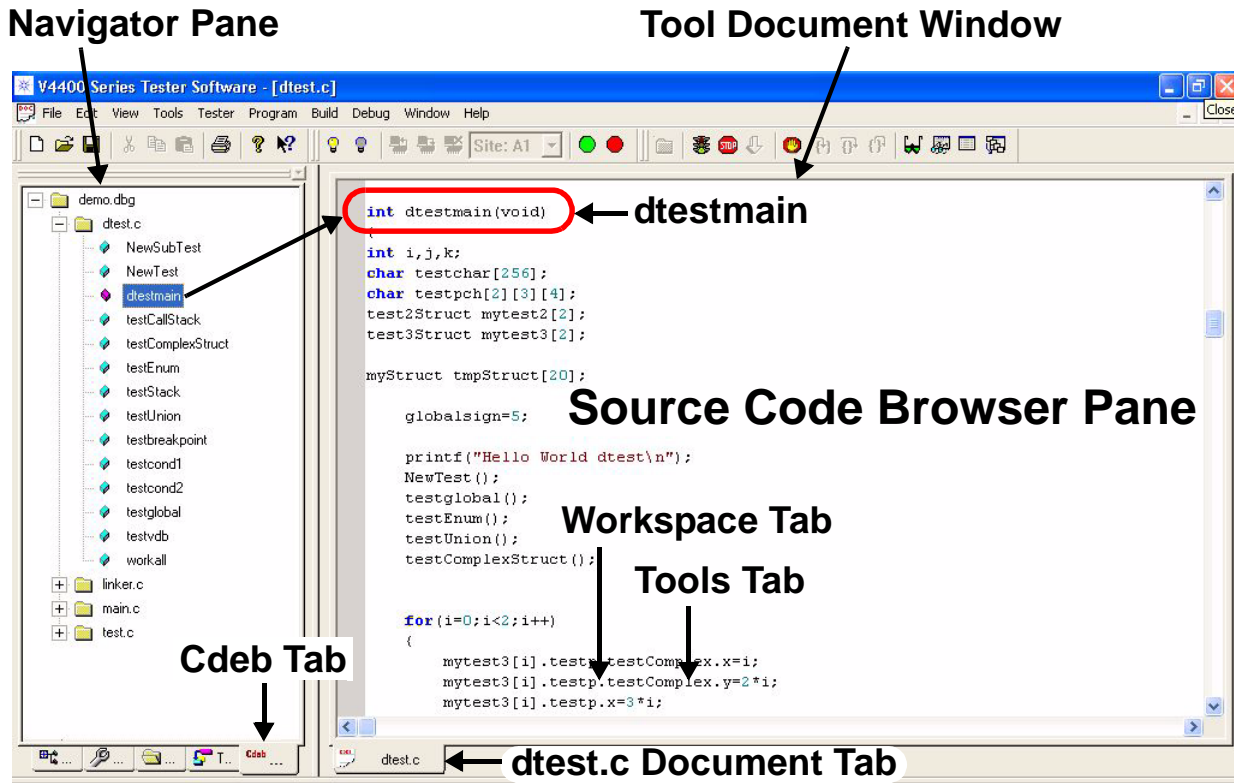

Figure 4-43. C Debugger Displaying dtest.c Document Window
- 7 In the C Debugger **Cdeb** tab, navigating to and double-clicking the `dtest.c > dtestmain` function displays it in the Source Code Browser Pane. Selecting the Tool Document Window's maximize  button displays it full-screen (similar to Figure 4-43).